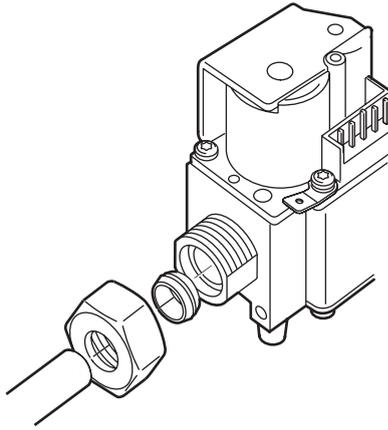

Fig. 3. External thread connection with nut and olive
- Tighten gas control using the right open end wrench. See fig. 3.
- ❸ With $\frac{3}{4}$ " nut and olive (see fig. 3.)